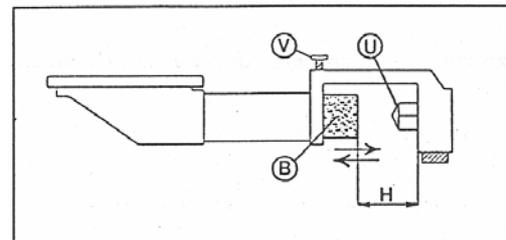

Fig. 5
- For the triple crown burner (Fig. 5), loosen the "V" screw securing the adjustment bush "B" and set the bush to an H distance from the base, respecting the value indicated in table 2. Tighten screw "V" again.